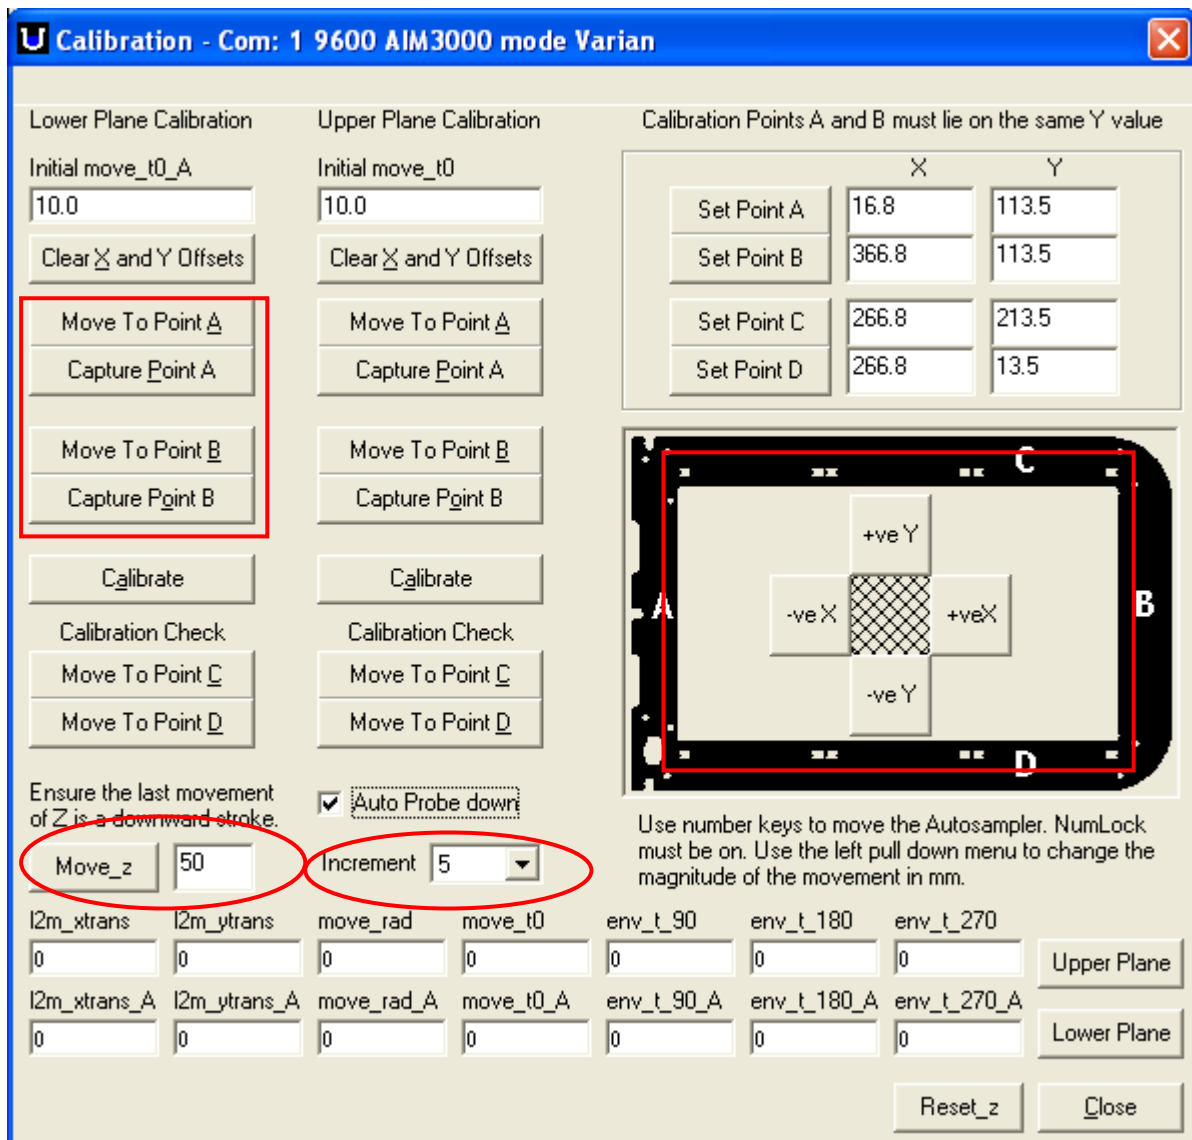

Figure 46. Calibration Page
8. Move the probe to position A by selecting the Move to Point A (Figure 46). Lower the probe by selecting the Move_z button (Figure 46), and change the depth of the downward stroke (the higher the number the further down it goes). In order to move the probe in the X and Y direction use the buttons marked +/- ve X and Y (Figure 46). The step increment can be adjusted by changing the value in the Increment pull down menu (Figure 46).
9. When the probe is correctly positioned over position A, then press the Capture Point A button (Fig 46) to lock in the coordinates.
10. Repeat the above steps for Point B making sure that you use the Move to Point B, and Capture Point B button (Figure 46).